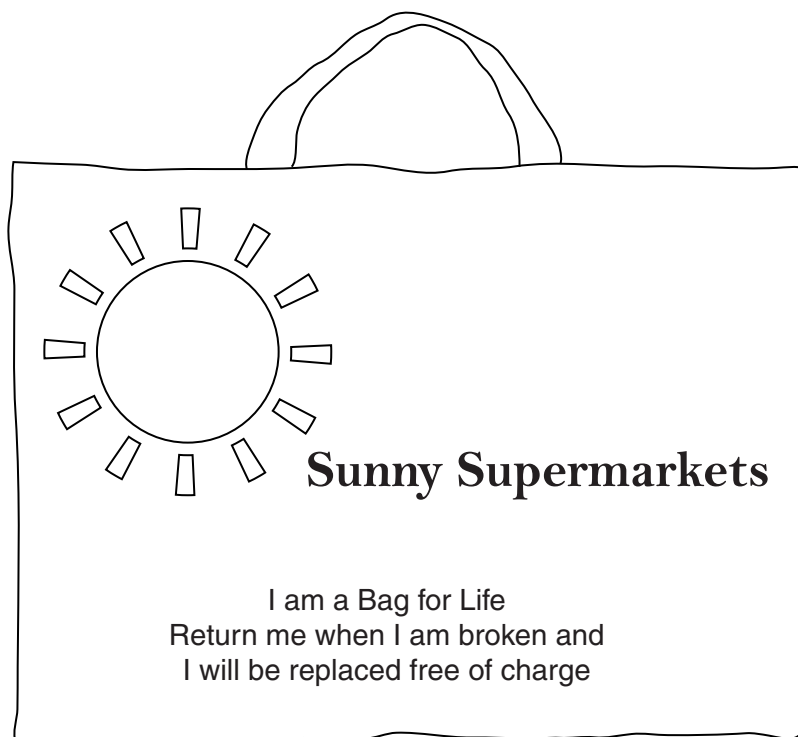

Fig. 6
- (d)** Fig. 6 shows a 'bag for life'. This type of bag is generally larger and stronger than the free bags that shops sometimes give their customers. An increasing number of shops operate a 'bag for life scheme'. This involves the customer initially buying, at a low cost, a 'bag for life' which is then replaced free of charge when it breaks and is returned to the shop. Discuss the benefits of this system.